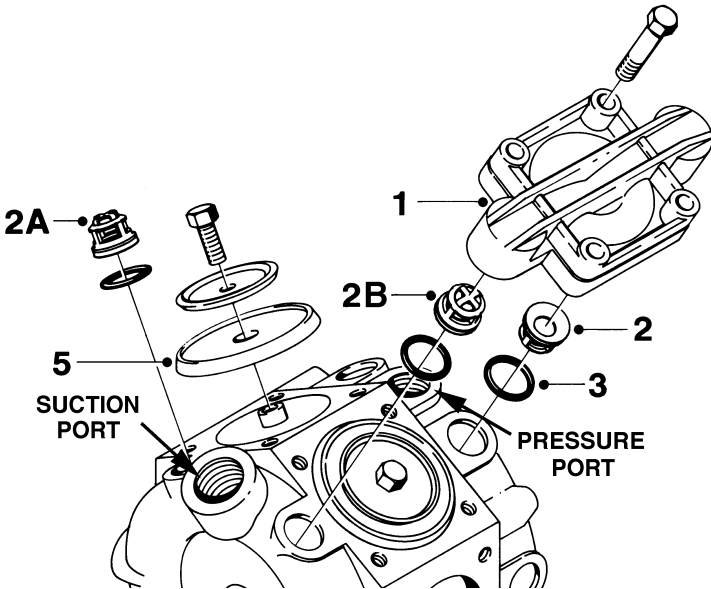

Fig. 38
1. Remove valve cover (1) (Fig. 38). Before changing the valves (2) (Fig. 38) note the orientation of the valves so that they are replaced correctly.
IMPORTANT: *The two valves with vented flaps (2A and 2B) (Fig. 38) must be placed in the valve openings as shown.*
2. It is recommended to use new O-rings (3) (Fig. 38) #330024 when changing or checking the valves.
3. Remove the diaphragm bolt (4) (Fig. 38) after having dismantled the valve cover as indicated above. The diaphragm (5) (Fig. 38) may now be changed.